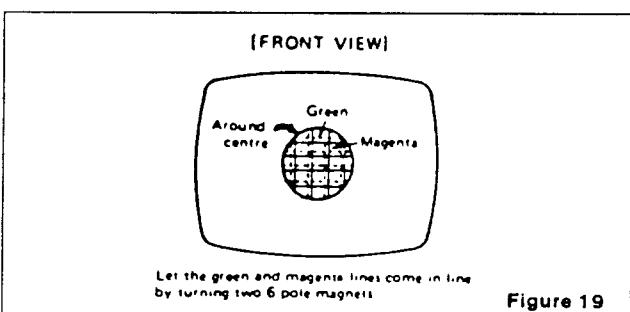

Figure 19
6. Turn on green input to obtain magenta (red/blue) and green cross hatch lines. Rotate the 6-pole (rear) pair of magnets as a unit to minimize separation of the magenta and green lines (Figure 19). Vary angle between the two tabs and further rotate as a unit to finalize.